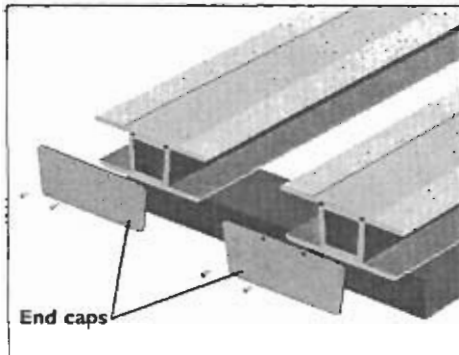

Figure 1
1. Remove the rear end cap from the side where you will be working using a Phillips screwdriver (Figure 1).